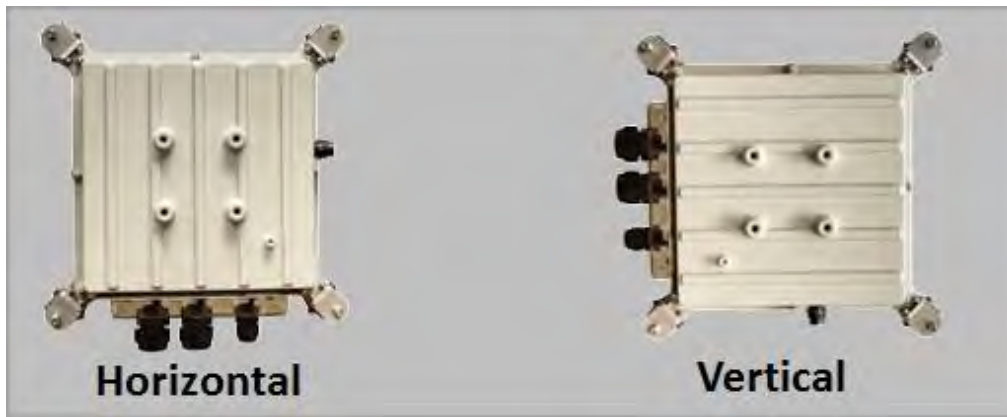

Figure 6-2: ODU Polarization Orientation
The radio operates in horizontal polarization when the cable glands on the plastic cover point downwards and in vertical polarization when the cable glands point sideways (see Figure 6-2).
1. Connect the digital voltmeter to the 2-pin connector on the side of the radio housing (see Figure 6-2) using the RSSI Alignment Cables included with the system. Make sure that the digital voltmeter readout can be clearly seen during the installation process (e.g. Tape it to the installation pole). Alternatively, use an Android smartphone/tablet and download the LightPointe **Bluetooth™** (BLE) application from the GOOGLE PLAY STORE